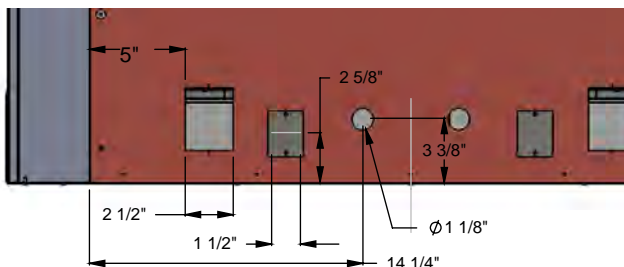

Figure 22. Gas line access.
- See **Figure 22** below for location of gas line access.